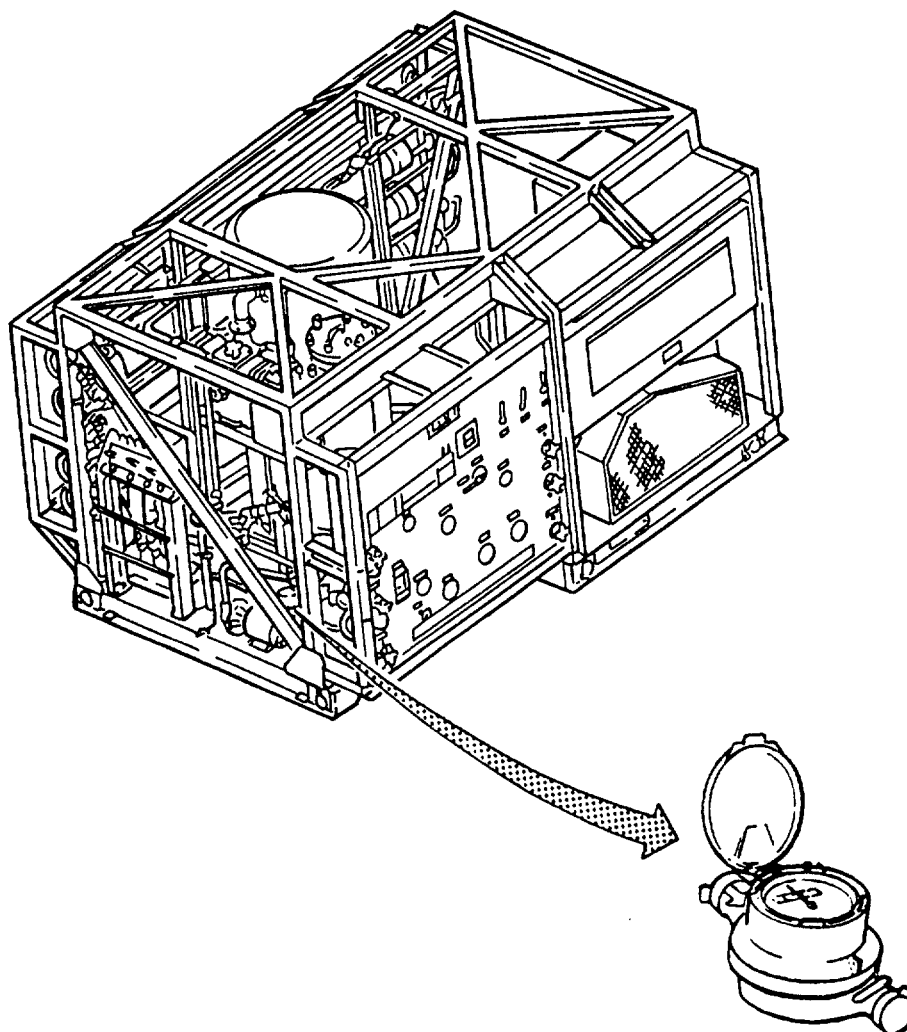

FIGURE 2-3. WATER METER
- a. Product Water Totalizer. The product water totalizer is located on the floor of the frame directly behind the booster pump as shown in figure 2-3. This meter is used to indicate the total number of gallons, in tenths of a gallon, of product water the unit has produced. The number of gallons is read directly from the numerals in the small window and the tenths of gallons from the position of the needle on the dial face.